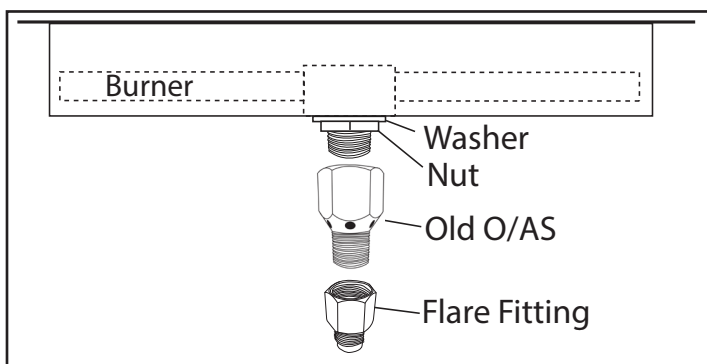

Fig. 1 Removing old LP gas orifice
6. Remove the 1/2" NPT Female to Male flared fitting from the old OAS-LP# (see figure 1).